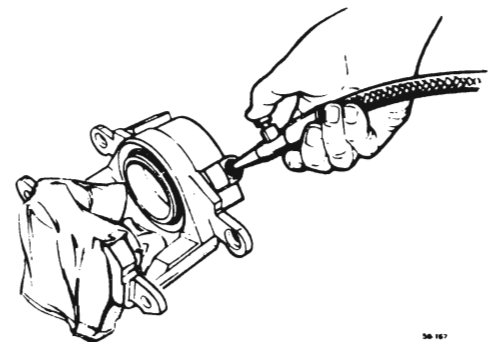

Figure 50-43--Removing Piston
3. Use clean shop towels to pad the interior of the caliper and remove the piston by directing compressed air into the caliper inlet hole. See Figure 50-43.